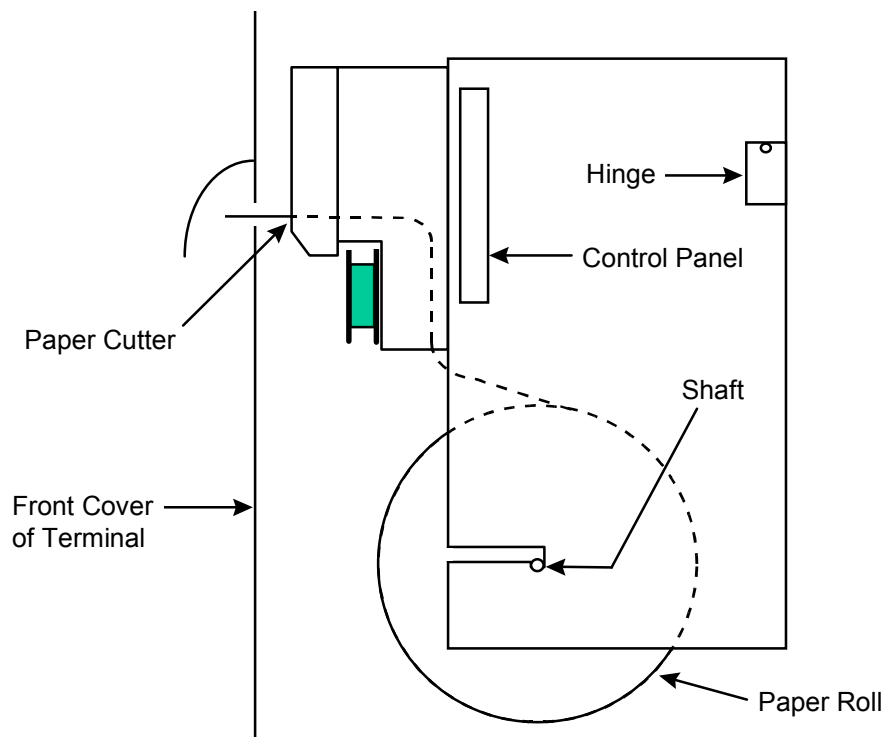

Figure 5-2: Side View of Printer
3. Place the shaft in the new roll of paper, and slide the ends of the shaft into the slots on either side of the holder below the printer. The paper should be positioned so that it will feed into the printer as shown in Figure 5-2.